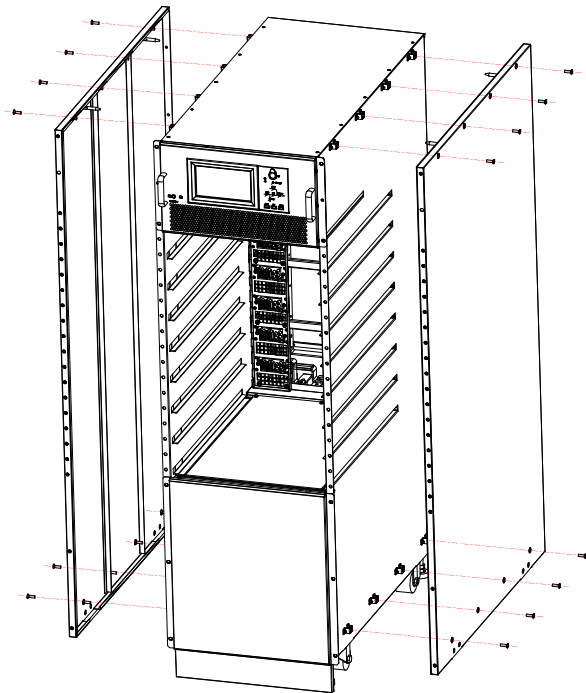

Figure 3-7 Remove the side door of the cabinet
2. Remove the side door of the cabinet, as Figure 3-7 shows :